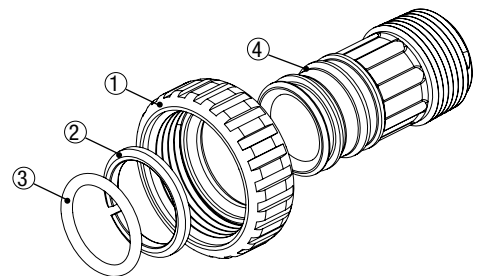

Figure 2. Fitting Installation Instructions
- b. Ensure the bypass valve is placed into the bypass position as shown in Figure 2 until instructed to place into the service position.
You will need to assemble the 1" NPT male connection fitting before you attach it to the bypass valve. Please refer to Figure 2 below to correctly assemble the connection fitting. Attach the plumbing to the 1" NPT male connection fittings, hand tighten the fitting nuts only. Be careful not to apply heat to any plastic part when making the connection of the plumbing to the connection fittings. Utilize only thread sealant tape to seal any NPT fittings that connect to the connection fittings. Both NPT connections utilize an o-ring to prevent a leak.